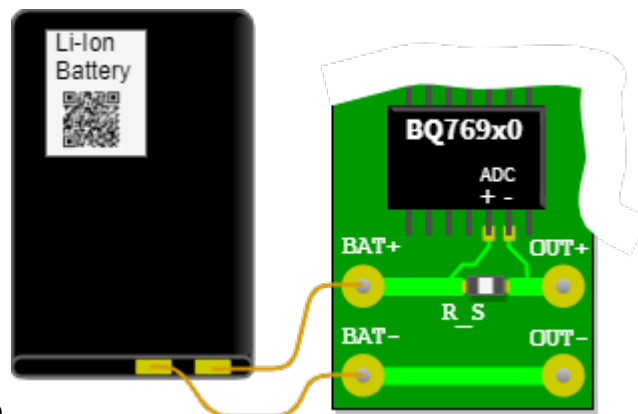

Fig. 32: Sketch of the setup
- The battery monitor BQ769x0 measures the charge and discharge currents of a lithium-ion battery by means of the voltage across a measuring resistor (shunt). In figure 32 the analog-to-digital converter (ADC) of this chip is connected to the shunt  $R_S$  via the circuit board. Through the shunt the discharge current flows from the battery connection  $BAT+$  to  $OUT+$  and via  $OUT-$  back to  $BAT-$ . The shunt shall be designed so that the bipolar measurement signals have a voltage level in the range of  $-0.20\ \text{V}$  to  $+0.20\ \text{V}$ . The analog-to-digital converter has a resolution of  $15\ \mu\text{V}$ . The currents can be used to count the charge in the battery to determine the state of charge (SOC).